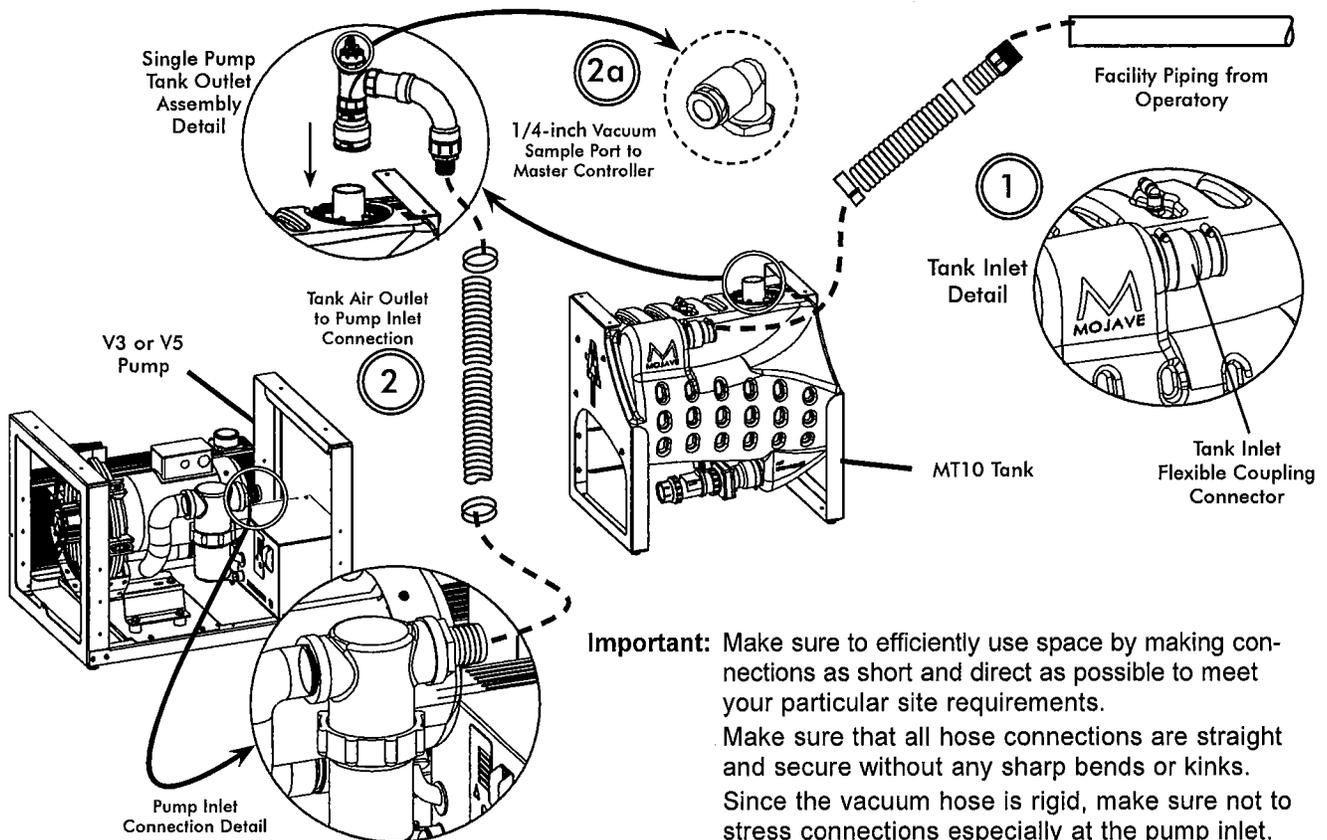

Figure 8. MOJAVE V3/V5 Pump and MT10 Tank Connection Diagram, Sheet 1
- c. Install a length of 1/4 inch OD Urethane Tubing (P/N 51453) between the vacuum sample port and the vacuum inlet port of the Master Controller. See Figure 8, item (2a.)
3. **Heat Exhaust Vent Connection.** Refer to Figure 8, item (3) and connect the vent hose (P/N 56057) between the pump heat exchanger and the facility vent line. Secure with two hose clamps (P/N 89324).